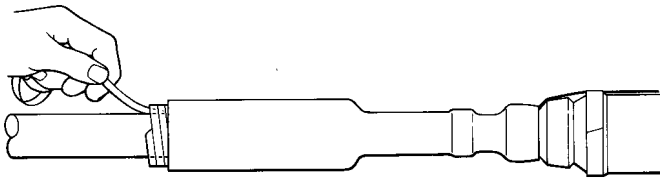

Figure 12
2. Position each PST so its leading edge will butt against the step in the end cap (Figure 12). Remove core by unwinding counterclockwise and tugging occasionally.